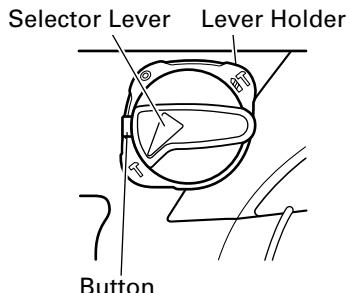

Fig. 7
- Align ▲ of the selector lever and T of the lever holder as illustrated in Fig. 7.